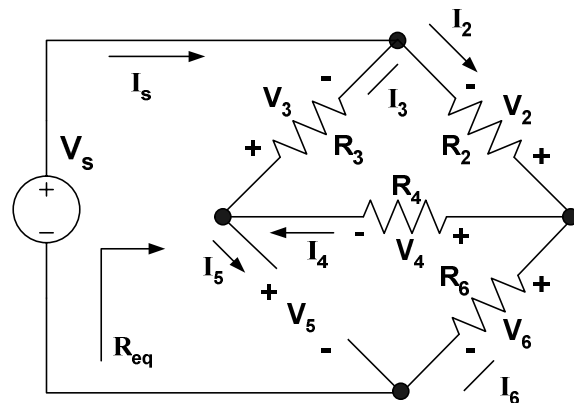

Figure 4: Series-parallel circuit II
4. Repeat steps 2 and 3 for the circuit given in Figure 4 and record the values in Table 2.
6. Build the circuit of Figure 4 with the hardwired components. Take the voltage current measurements and  $R_{eq}$  and record in Table 2. Considering the Workbench results as the base compute the percentage errors.
Table 2: Simulation and experimental results for Figure 4
Refer to Figure 4 and the results obtained in Table 2 and answer the following questions: